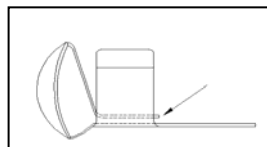

Figure 8.10A Lamp Socket Terminal
- 3: Place the terminal over the wire by prying up the center "prong" and sliding the wire under, *see the arrow in Figure 8.10A*, then crimp. If the wire is not inserted under the prong, a proper crimp will be impossible to achieve.